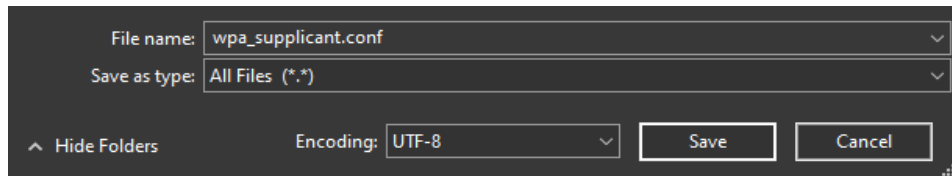

Figure 7. How to save the wpa_supplicant.conf file
- Go to **File > Save as**, name it “**wpa_supplicant.conf**” and in **Save as type**, choose: **All Files (*.*)** as shown in Figure 7. Be sure to set **Save as type** to **All Files (*.*)** (so the file is NOT saved with a .txt extension).